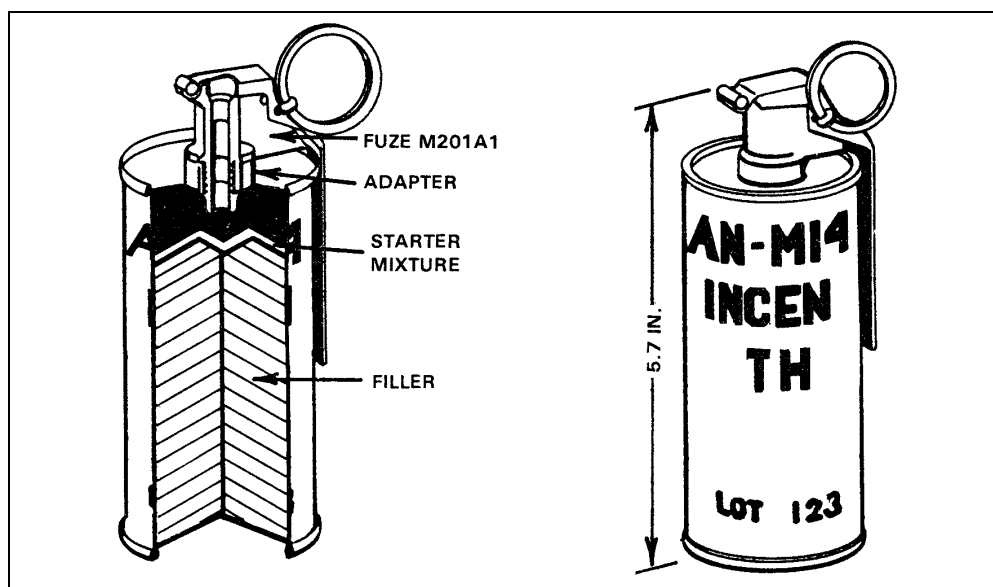

Figure 1-10. AN-M14 TH3 incendiary hand grenade.
a. **Incendiary.** The AN-M14 TH3 incendiary hand grenade (Figure 1-10) is used to destroy equipment or start fires. It can also damage, immobilize, or destroy vehicles, weapons systems, shelters, or munitions. The description and components are as follows:
- (1) *Body.* The body is sheet metal.
- (2) *Filler.* The filler has 26.5 ounces of thermate (TH3) mixture.
- (3) *Fuze.* The fuze is an M201A1.
- (4) *Weight.* The grenade weighs 32 ounces.
- (5) *Safety clip.* This grenade does not have a safety clip.